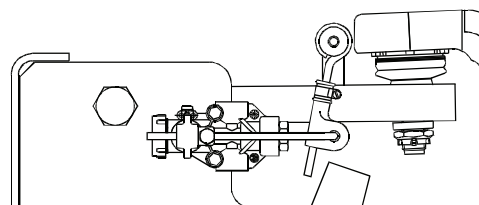

Figure 13 - Height Control Valve (Ridewell)
3. The actuation arm of the height control valve should be horizontal at ride height (See Figures 13, 14 and 15). See section 5 for adjusting to correct ride height.